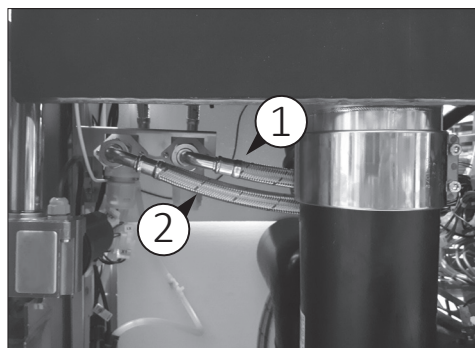

Fig. 7
- Make sure to connect the water flexible hoses in the positions shown in Fig. 7.
- Connect the water flexible hose to connections shown in Fig. 7.
Water connections (Fig. 7)
- 1) Connect the machine to water connections (Fig. 7).